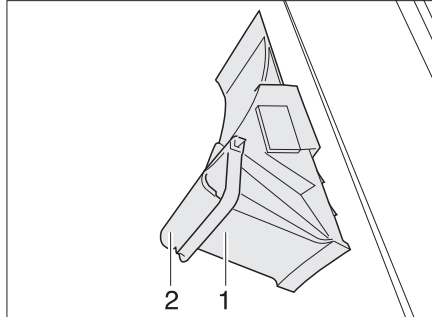

Fig. 16 Wheel chock
- Swivel the retaining clip (Fig. 16,2) down.
- Remove the wheel chock (Fig. 16,1) from the holder.